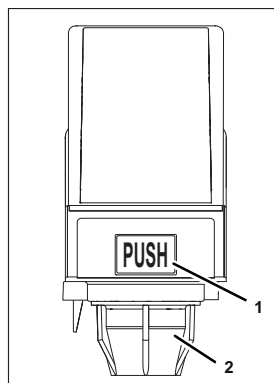

Fig. 2
- Fig. 2/1 Control panel
- Fig. 2/2 Dispensing nozzle